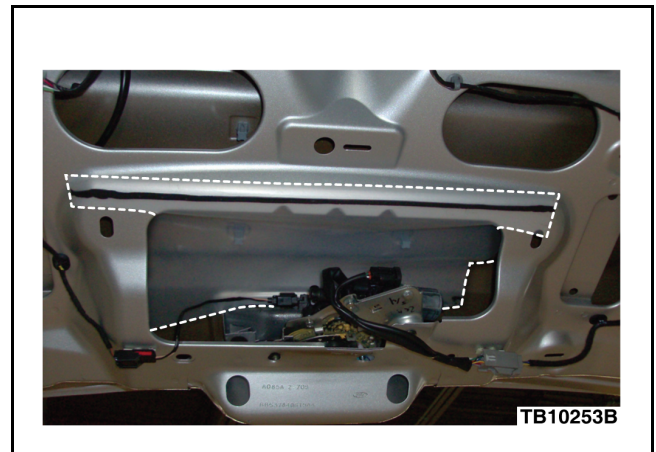

Figure 1 - Article 12-10-7
5. Install water deflector. Ensure it is tucked over liftgate latch and liftgate release switch. (Figure 1)